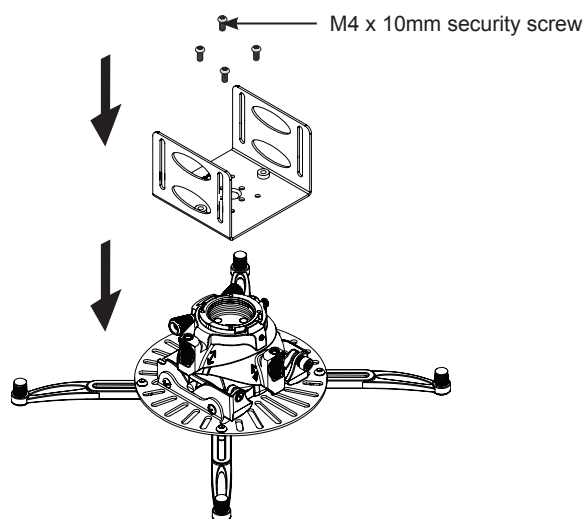

Figure 2
- 2 Following the “A” mounting-hole pattern (Figure 1), use four (4) M4 x 10mm security screws to attach the FTP projector mount to the lower half of the mounting assembly (Figure 2). Do not overtighten.